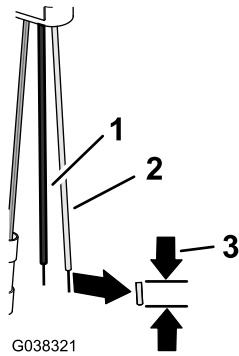

Figure 42
2. Strip 8 mm (5/16 inch) of insulation from the pink and black wires of the 3-pin adapter (Figure 42).